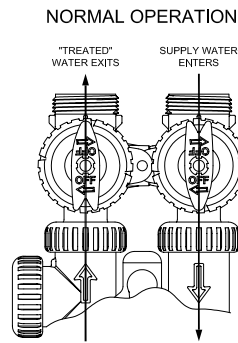
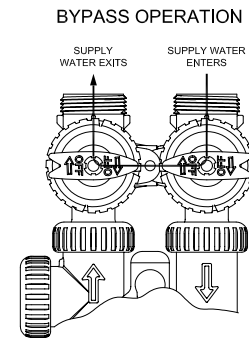

figure 1
figure 2
1. Normal Operation Position: The inlet and outlet handles point in the direction of flow indicated by the engraved arrows on the control valve. Water flows through the control valve during normal operation and this position also allows the control valve to isolate the media bed during the regeneration cycle. (see figure 1)
2. Bypass Position: The inlet and outlet handles point to the center of the bypass, the control valve is isolated from the water pressure contained in the plumbing system. Untreated water is supplied to the plumbing system. (see figure 2)
Do not add salt to the brine tank yet. Do not plug the transformer into the receptacle yet. Make sure inlet and outlet valves are to their closed positions. If using optional bypass, place in bypass position. Turn on main water supply. Open a cold water faucet. This will clear the line of any debris (solder, pipe dope, etc.) that may be in the line. Let water run at faucet for a couple minutes, or until clear. **SLOWLY** turn the bypass to **NORMAL OPERATION MODE (figure 1)** and allow the softener to fill with water. When water is once again seen at the opened cold water faucet, turn off water faucet and place the bypass valve in **BYPASS OPERATION (figure 2)**. Manually add 1 ½ gallons of water to the brine tank. Now plug the transformer into a 120 volt receptacle (be certain the receptacle is uninterrupted). Within 5 seconds the control display and buttons will illuminate and the time of day screen will appear.
When water is flowing steadily to drain without the presence of air, momentarily press  again. Display will read **RINSE**. Open the outlet valve of the softener, or if using optional bypass place to **NORMAL OPERATION MODE (see figure 1 on page 4)**. Allow control to finish the **RINSE** cycle. Allow the control to automatically advance to the **SOFTENING** position. Now load the brine tank with salt. Solar Salt is recommended. The brine tank salt level should be checked every couple of weeks to determine salt usage. Keeping the brine tank salt level at least 1/2 full is recommended.